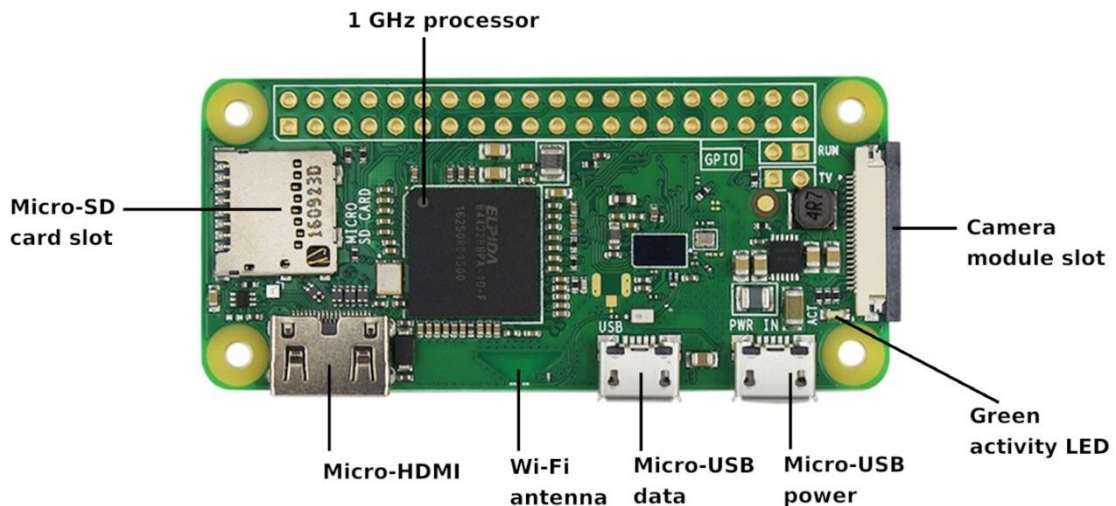

Figure 9. Raspberry Pi Zero (W) v1 connectivity
- Once the two text files are copied on the SD card, remove it carefully and insert it into the Raspberry Pi Zero (W). Bootup the Raspberry by attaching the USB cable to the micro-USB power port (Fig. 9) and the power bank. Note that the Raspberry has two micro-USB connectors. The power connector is located just next to the camera connector (Camera module slot) on the short edge of the Pi. The other micro-USB connector (Micro-USB data) is used for accessories and should not be connected to the power outlet. Once powered on, the green activity LEDs will blink. After a few seconds the Raspberry will automatically connect to one of the Wi-Fi networks that were specified in the wpa_supplicant.conf file (see above).